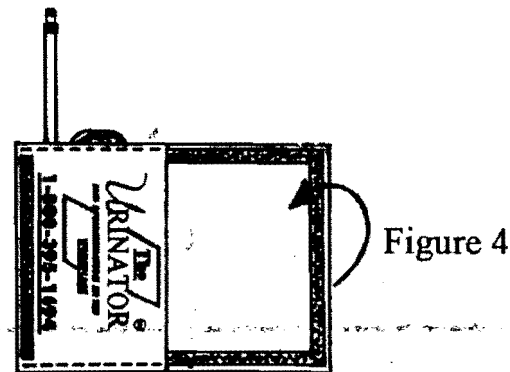

Figure 4
9. Fold the fabric again and attach the *Velcro.(Figure 4)